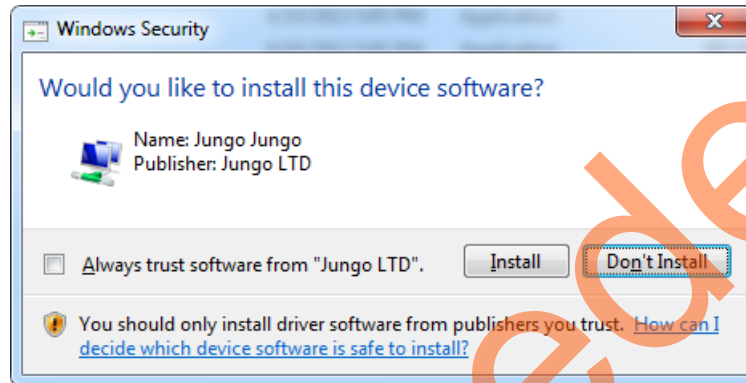

Figure 13 • Jungo Driver Installation
3. Click **Install** if the window is displayed as shown in Figure 13.